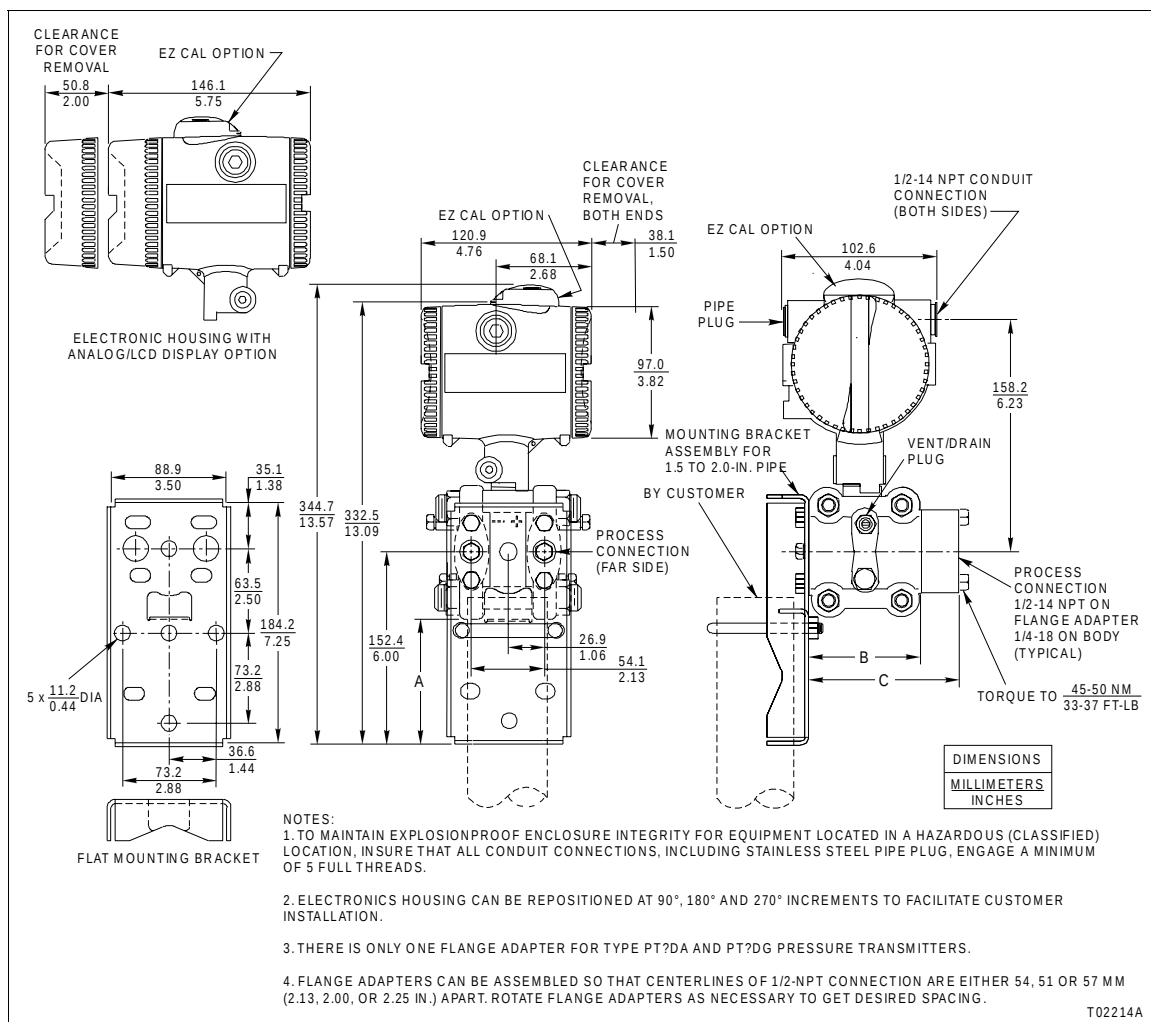

Figure 3-1. External and Mounting Dimensions
When mounting the transmitter, leave ample clearance to open the cover of the electronics housing (Fig. 3-1). Wire the transmitter with a twisted, shielded pair cable for best results. Avoid sources of radio frequency interference (RFI). Refer to Table 3-1 for the A, B and C dimensions shown in Figure 3-1.
Table 3-1. Dimensions for Figure 3-1
Refer to Figure 3-1 and Table 3-1 for the external and mounting dimensions of the transmitter.
Refer to Figure 3-1 for identification of the optional vent/drain plugs.
2. Position the EZ CAL option on top of the transmitter (Fig. 3-1).